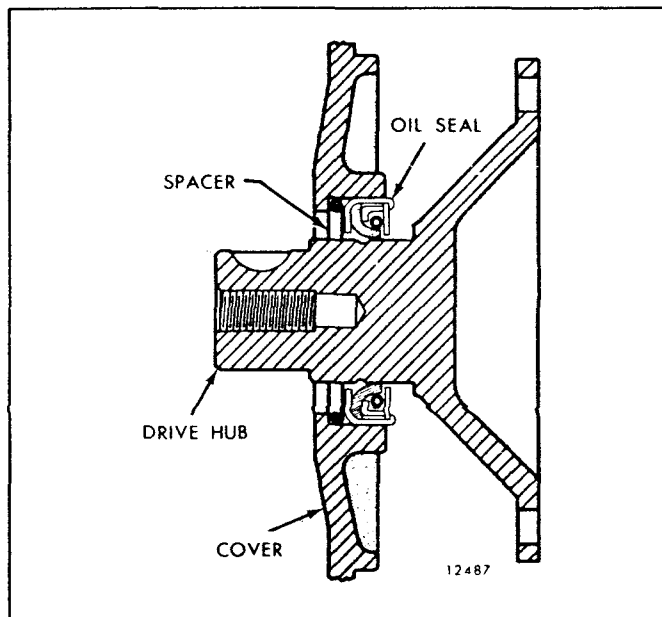

Fig. 7 – Location of Oil Seal Spacer
*Shielded bearings must not be washed; dirt may be washed in and the cleaning fluid could not be entirely removed from the bearing. Wipe the outside of the bearing clean, then hold the inner race and revolve the outer race slowly by hand. If the bearing is worn or does not roll freely, replace the bearing. Inspect the accessory drive hub, shown in Fig. 4, for grooving at the area of contact with the lip of the oil seal. If the hub is grooved to a point where the effectiveness of the oil seal is lost, a ring type oil seal spacer is available which serves to reposition the seal, thus providing a new sealing surface for the lip of the seal (Fig. 7).*